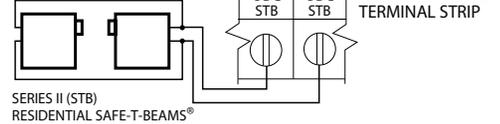

Figure 6
- 1) Monitored SERIES II (STB) photocells (P/N 35048R.S) and Residential Safe-T-Beam® Monitored Photocells from Overhead Door® (P/N 37221R). **Fig. 6.** Wiring to these photocells can be connected to either terminal (they are not polarity sensitive). (**Troubleshooting in Section 8**).